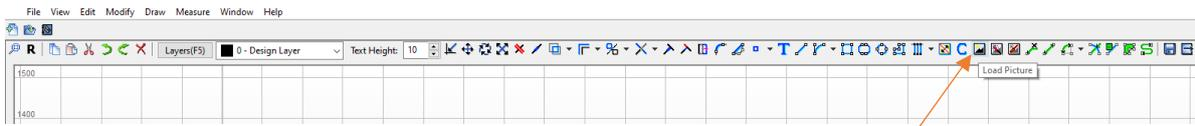

Figure 409
- LOAD PICTURE:** Click  (Load Picture) on the Main Toolbar (Figure 409).